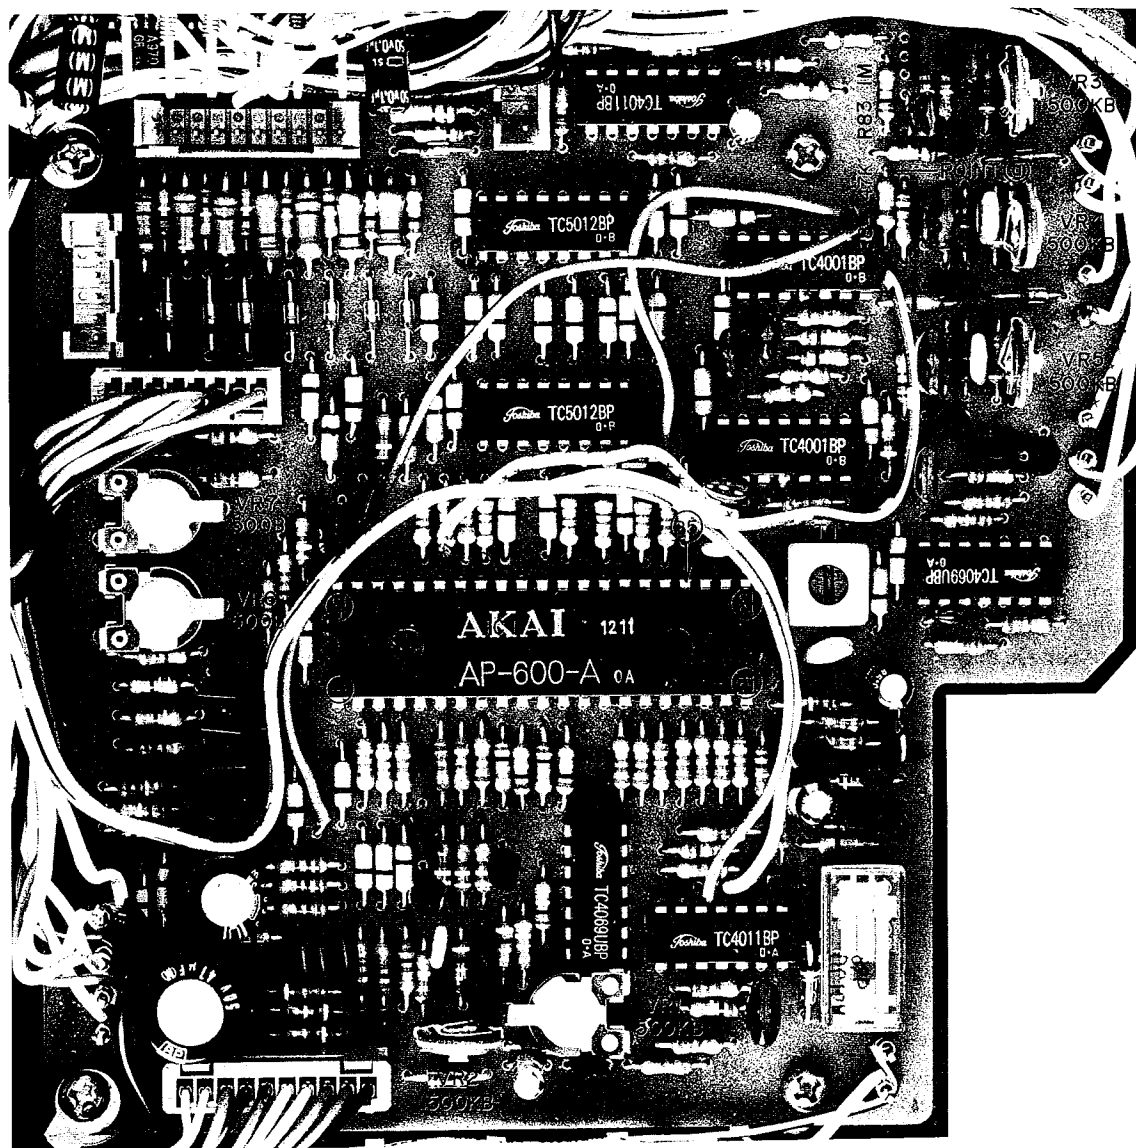

Fig. 36 Arm Control P.C Board
1. Basic Clock Oscillation Frequency Adjustment (Refer to Fig. 36)
2. Arm Sensor Sensitivity Adjustment (Refer to Figs. 36 to 38)
3. Adjusting to the Amount of Light in the Arm Sensor LED. (Refer to Figs. 36 to 38)
4. Record Size Sensor Sensitivity Adjustment 4-1. 17 cm Record Position (Refer to Figs. 36, 40)
4-2. 30 cm Record Position (Refer to Figs. 36, 41)
4-3 25 cm Record Position (Refer to Figs 36, 41)